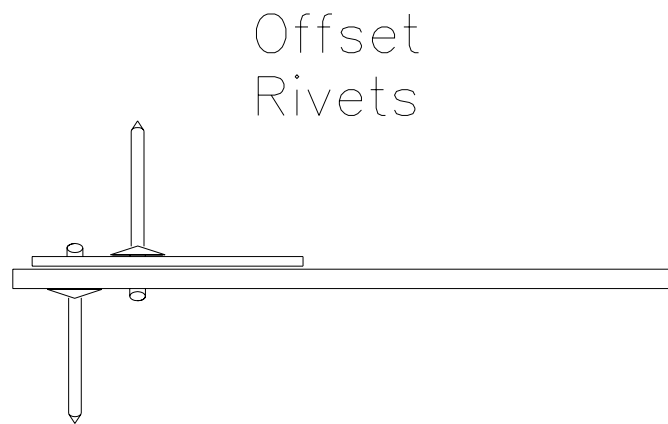

Figure 20.4.4
7) Attach bell crank bearing to the mixer with 1/8" (RR-5404) S.S. rivets. Insert rivets in a one up, one down pattern. Figure 20.4.4.